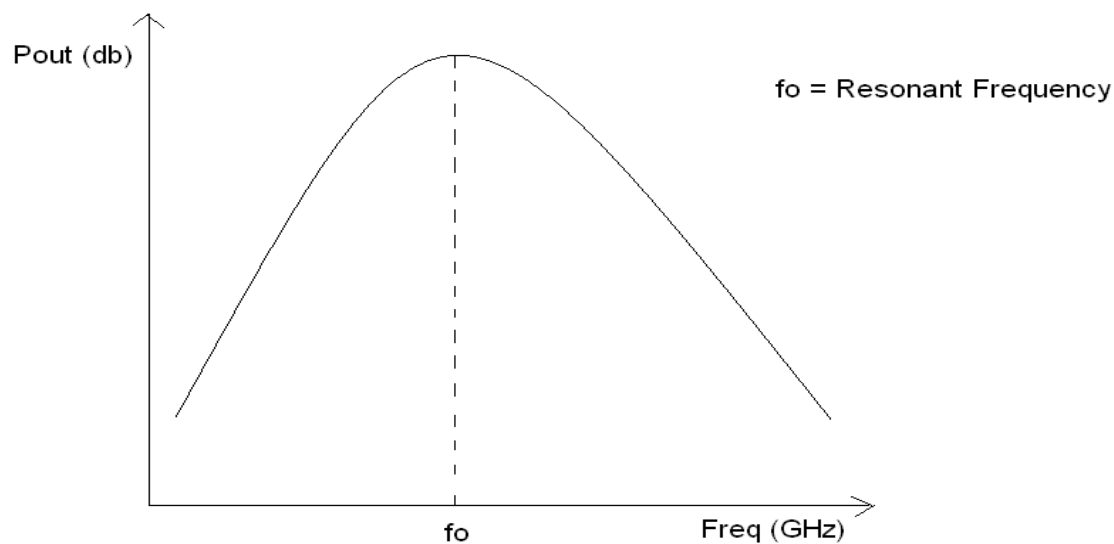

Figure 1: Plot output power and resonant frequency
1. Assemble the set up shown in Fig. 1. Connect the output of the frequency meter directly to the directional coupler (connect P to Q directly).
1. The transmission loss response of the resonator can be measured using the Test Bench set up given at Fig. 1.
The microstrip power divider provided is of the 3 dB Wilkinson type the impedance of the input/output lines is 50Ω and the isolation resistor connected between the two output lines has a value of 100Ω . Measuring the power division property involves measuring the transmission response between the input port (port 1) and the two output ports (ports 2 and 3). While measuring the transmission response between any two ports, the third port has to be terminated in a matched load. Measuring the isolation property involves measuring the transmission response between ports 2 and 3 by terminating port 1 in a matched load. Figure 1 shows the line diagram of Y-junction as a power divider. Let port 1 be the input port that is matched to the source ($S_{11} = 0$).